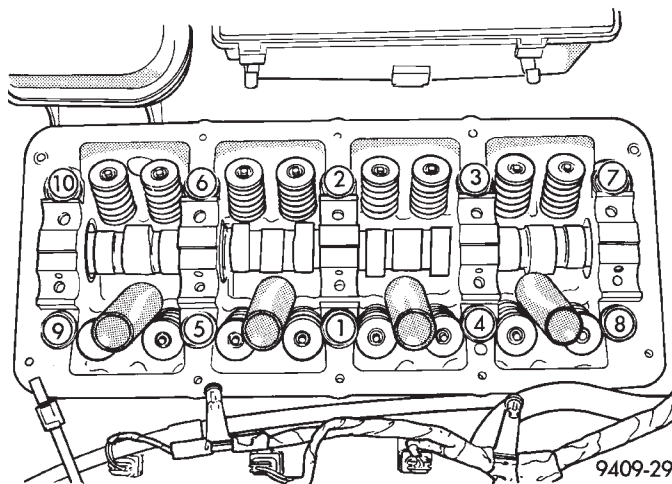

Fig. 37 Cylinder Head Tightening Sequence
(4.330 in.) are to be installed in positions 7, 8, 9, and 10 (Fig. 37).
(2) Tighten the cylinder head bolts in the sequence shown in (Fig. 37). Using the 4 step torque method, tighten according to the following values: